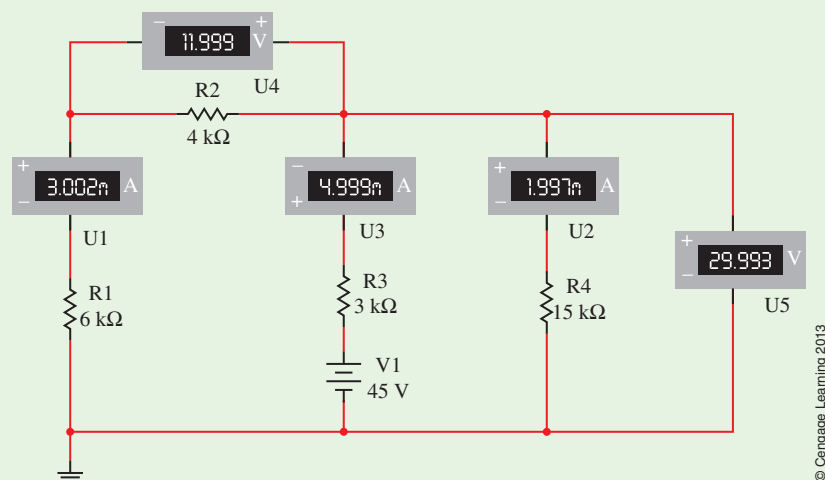

FIGURE 7-40
b. Next, we remove the multimeter and insert the 45-V source. Ammeters and voltmeters are inserted, as shown in Figure 7-40.